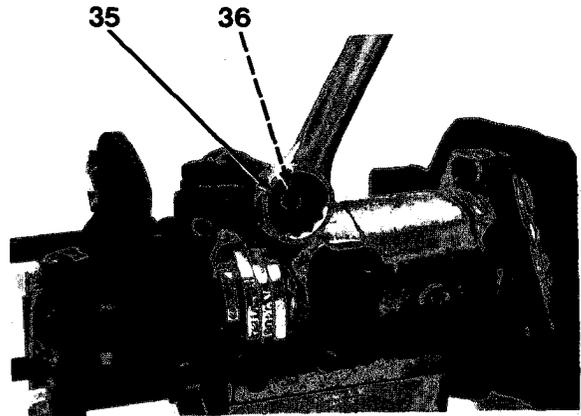

Figure 7-22
11. Remove spring cap and O-ring (35) slowly and remove spring and shims (36, Figure 7-22).